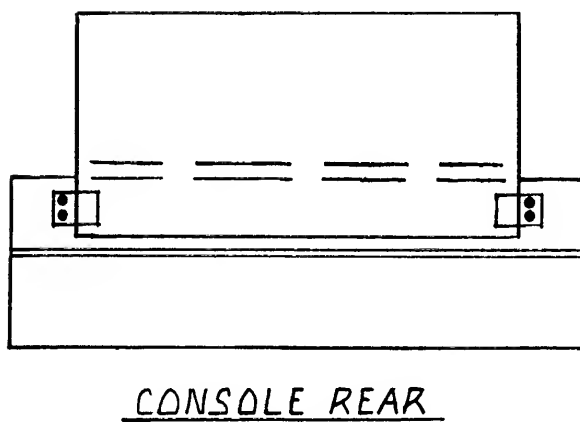

FIG. 2-7
- 2) Loosely attach the two retainer brackets to the rear of the meter box, using the four 6-32 x 1/4 inch (6 mm) screws. The open ends of the brackets face each other. See Fig. 2-7. Do not tighten the brackets yet.